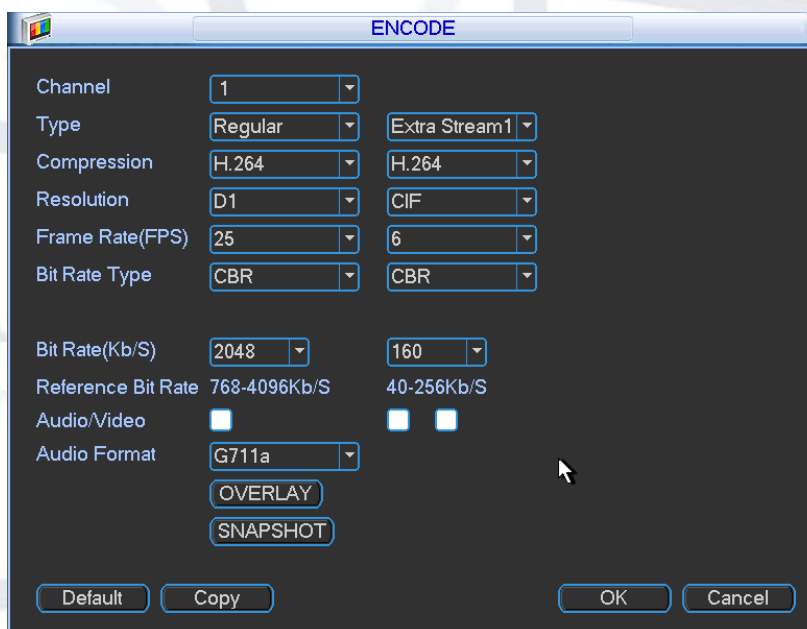
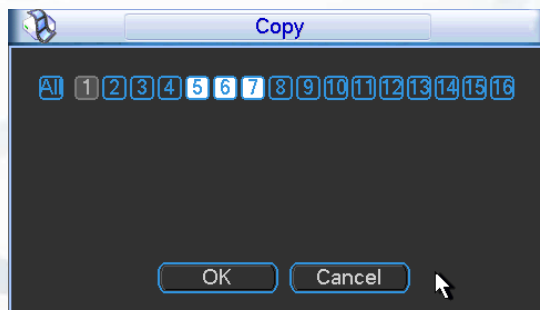
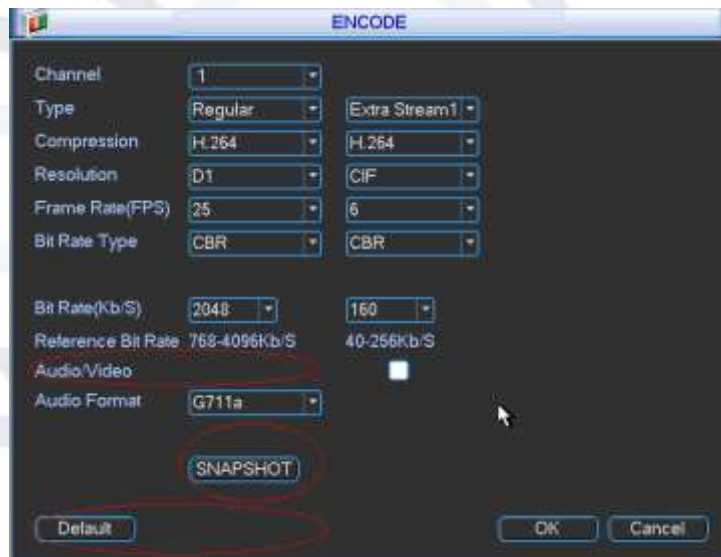

Figure 5-8
Figure 5-10
Figure 5-11
Encode setting includes the following items. See Figure 5-8.
- **Copy:** After you complete the setup, you can click the Copy button to copy current setup to other channel(s). You can see an interface is shown as in Figure 5-10. You can see current channel number is grey. Please check the number to select the channel or
you can check the box ALL. Please click the OK button in Figure 5-10 and Figure 5-8 respectively to complete the setup. Please note, once you check the All box, you set same encode setup for all channels. Audio/video enable box, overlay button and the copy button is shield. See Figure 5-11.